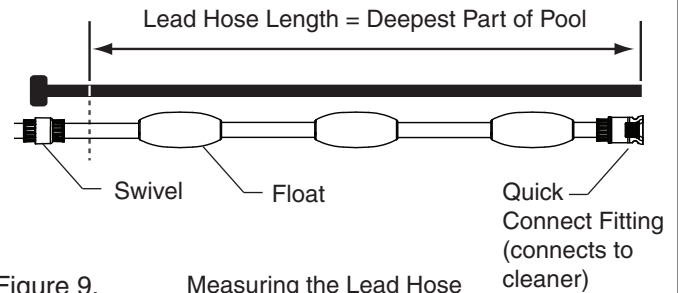

Figure 9.
2. If the pool depth is less than 3m. (10 ft.), disconnect the soft light grey lead hose, labeled section one, from the swivel end. Cut the lead hose so the length is equal to the deepest part of the pool. **See figure 9.**